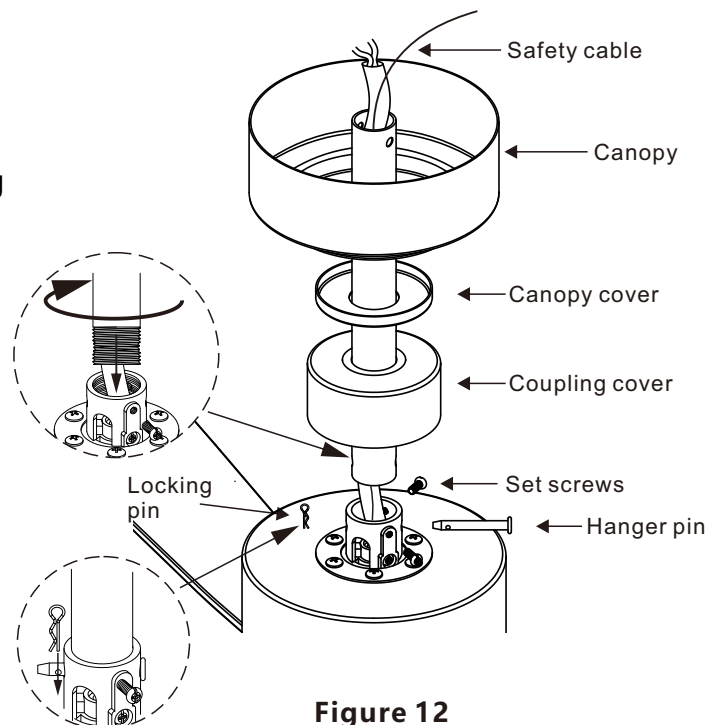

Figure 12
Step 5. Route the wires and safety cable coupler exiting from the top of the fan motor through the coupling cover, canopy cover and canopy, then through the ball/downrod. (Fig. 12)
Step 6. Thread downrod into the motor coupling until the holes on the downrod and coupling are lined up (Fig.12) Carefully insert the hanger pin through the holes in the collar and downrod. Be careful not to jam the pin against the wiring inside the downrod. Insert the locking pin through the hole near the end of the hanger pin until it snaps into its locked position, as noted in the circle inset of (Fig.12)
Step 7. Tighten two set screws against the downrod on the coupling firmly. (Fig. 12)